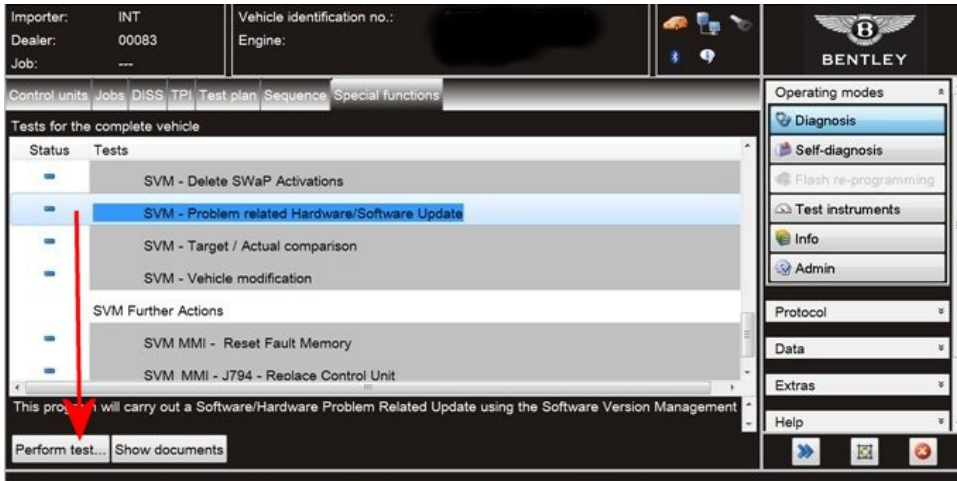

Figure 2
1. Select and run Guided fault finding. Within the Special functions tab select SVM – Problem related Hardware/Software update then select Perform test (Figure 2)